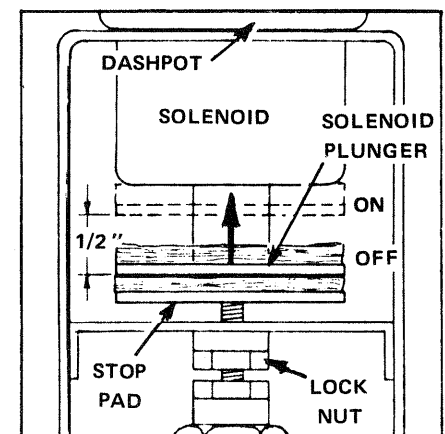

FIGURE 9-39 Pedal Solenoid stroke measurement.
- C. If the Solenoid is working, check to see that its stroke is 1/2". Stroke is determined by the travel of the Solenoid plunger as shown in FIGURE 9-39.